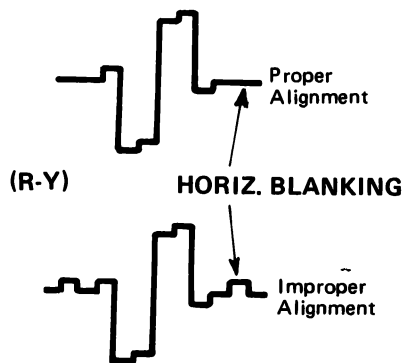

Fig. 36.
10. Further, change connection of scope from R1 to B3 and adjust LM07 (B-Y Demod, coil) the same as above. (Figure 36, 37)